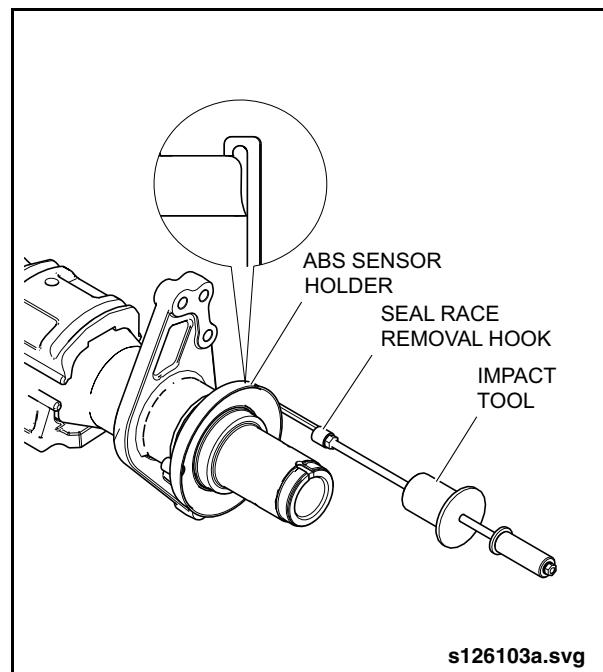

Fig. 2-144: Removing ABS Sensor Holder
9. Position the seal race removal hook on the ABS sensor holder. See "Fig. 2-144: Removing ABS Sensor Holder" on page 126.